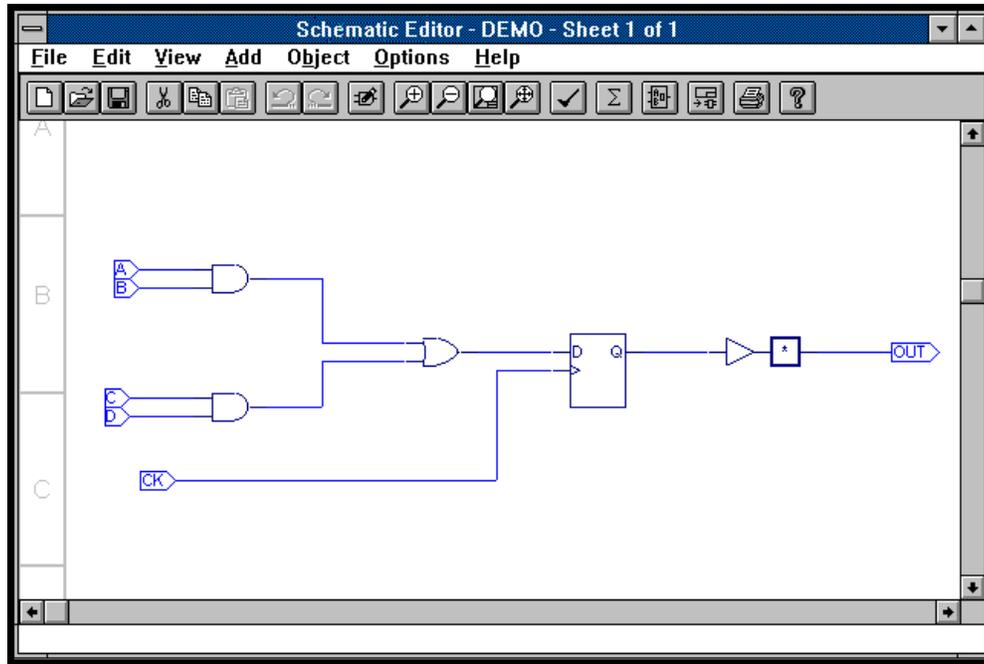

Figure 1-8. Completed Schematic
20. Choose **Output** from the I/O Markers dialog box and click on the end of the output net. The completed schematic should appear as shown in Figure 1-8.